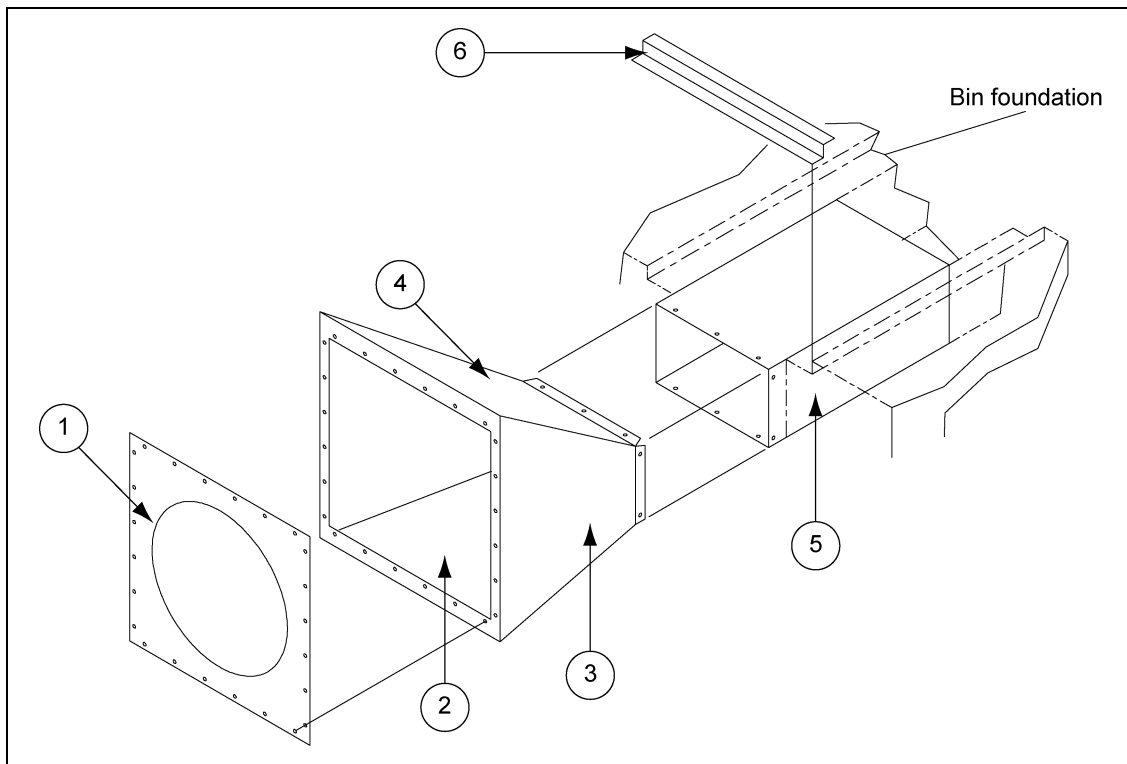

Figure 1
Assemble two (2) inlet duct sections (FL-460) to form a box. Assemble transition as shown in Figure 1 and then bolt (5/16" x 3/4" bin bolts), to inlet duct. Caulk all seams.